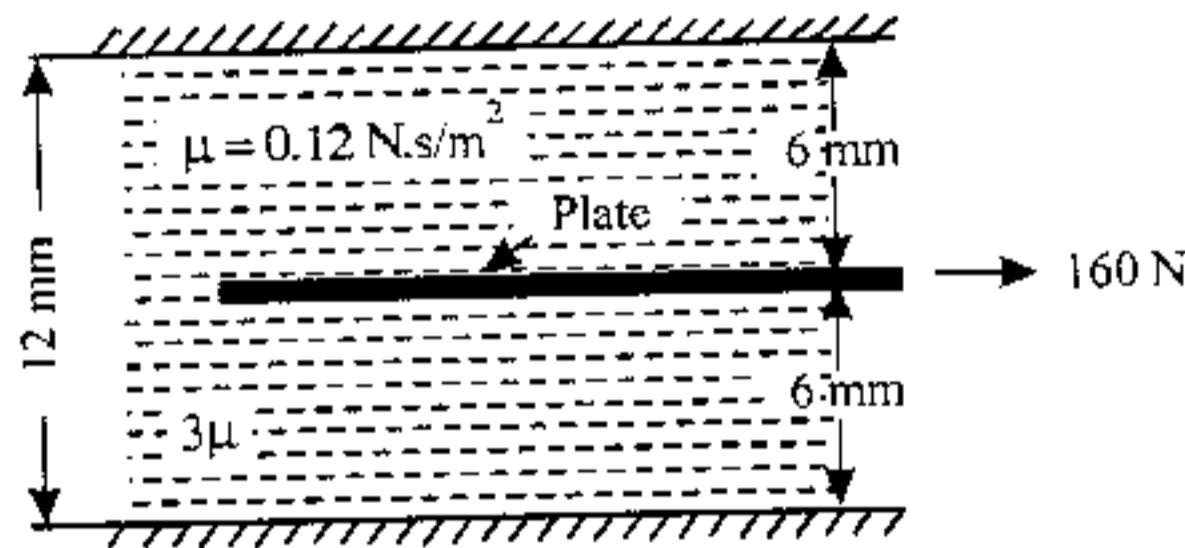

Fig. 1.14
**Example 1.17.** In the Fig. 1.14 is shown a central plate of area  $6 \text{ m}^2$  being pulled with a force of  $160 \text{ N}$ . If the dynamic viscosities of the two oils are in the ratio of  $1:3$  and the viscosity of top oil is  $0.12 \text{ N.s/m}^2$  determine the velocity at which the central plate will move.